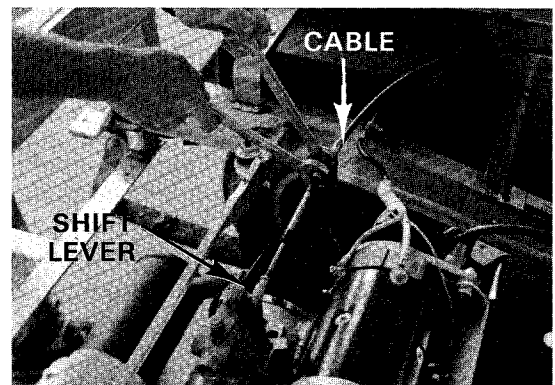

Figure 10-4
5. Disconnect F&R shift cable from transmission lever (**Figure 10-4**).
6. Remove transmission shifter arm (20).
7. Loosen bolt (12) on governor arm (13).